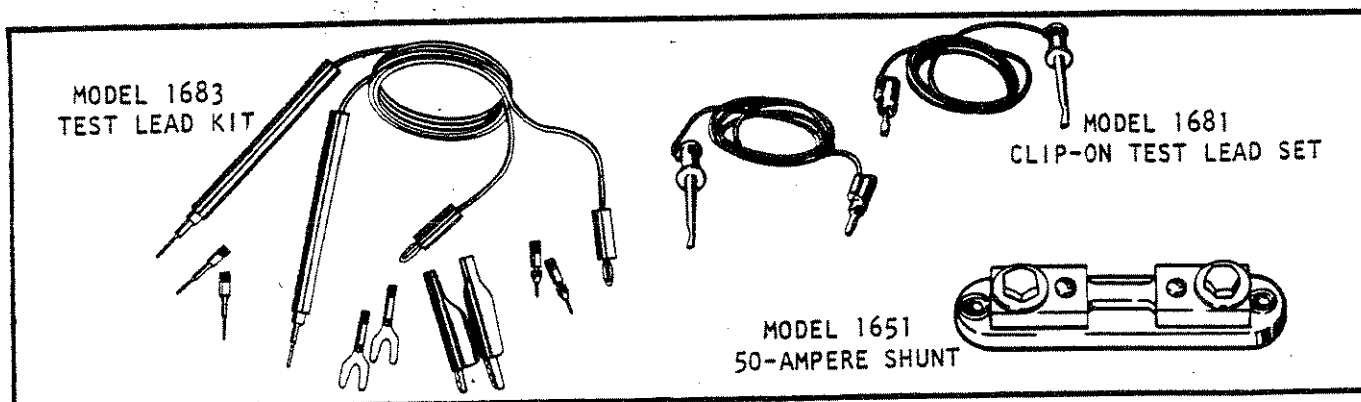

FIGURE 2-5. Accessories.
b. Model 1651 50-Ampere Shunt. The Model 1651 50-Ampere Shunt (shown in Figure 2-5) permits current measurements from 0-50A dc and from 20-50A ac. The shunt has a resistance of 0.001 ohm ±1%, so that a 50-ampere current will correspond to a reading of 50 millivolt (0.0500 volt). Set the DMM to ACV or DCV and select the required range. To use the shunt connect the leads furnished with the shunt from the shunt screw terminals to the DMM input terminals. Use separate leads (not furnished) to connect the source to the hex head bolts. Be sure to use leads with a capacity of 30 amperes, or as needed.
c. Model 1681 Clip-On Test Lead Set. This set (shown in Figure 2-5) contains two leads with banana plugs at one end and spring-action clip-on probes at the other end. Plug the leads into the DMM and attach the probes to the source.
d. Model 1683 Universal Test Lead Kit. This kit (shown in Figure 2-5) contains two test leads, 14 tips, two probes, four banana plugs, two phone tips to permit connection of the DMM to virtually any source within its range.